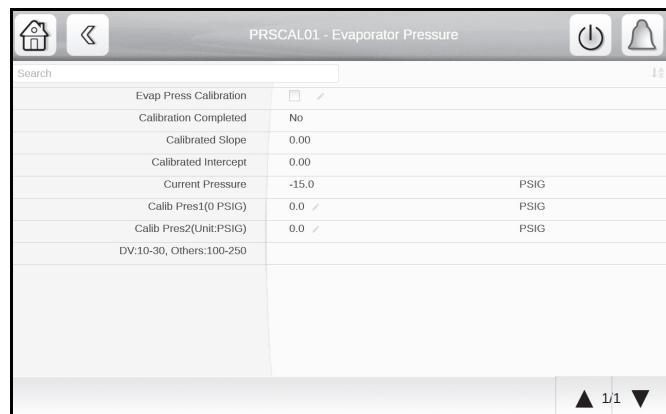

Fig. 34 — Evap Pressure Sensor Screen
2. Each transducer is supplied with 5 vdc from the IOB. Calibration is done by selecting the appropriate Pressure Sensor option on the Pressure Sensor Calib screen. The screen for the selected option is displayed. Figure 34 shows the Evap Pressure Sensor screen (PRSCAL01 as an example).